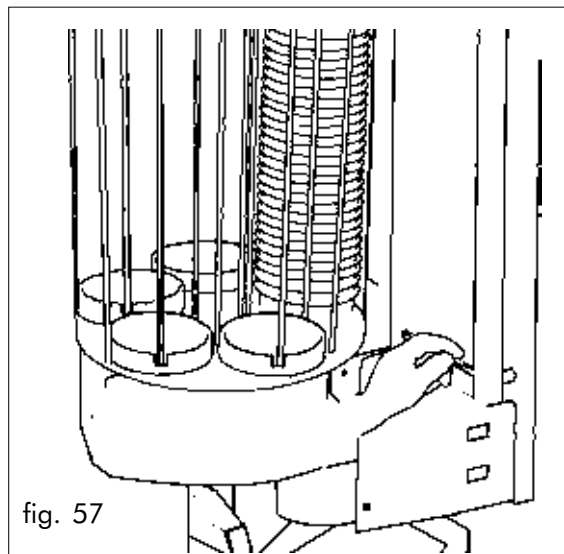

fig. 57
- Remove the metal counter-weight from the spoon dispensing column (fig.57).